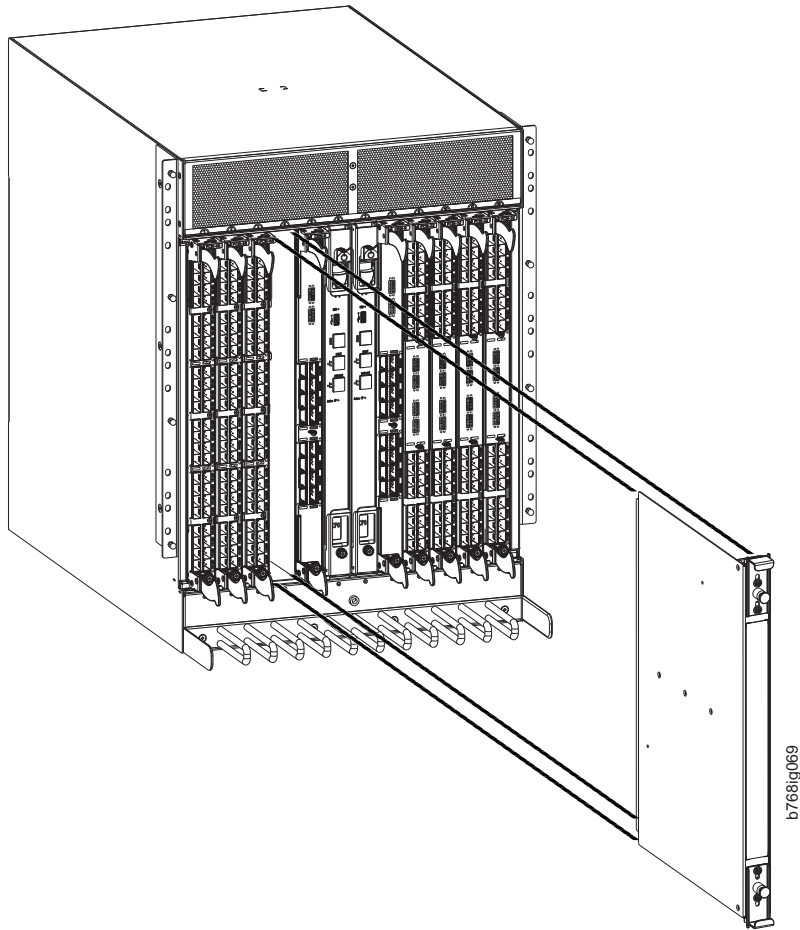

Figure 34. Filler panel removal and installation
3. Using the tabs, pull the filler panel out of the chassis. (See Figure 34 on page 88.)